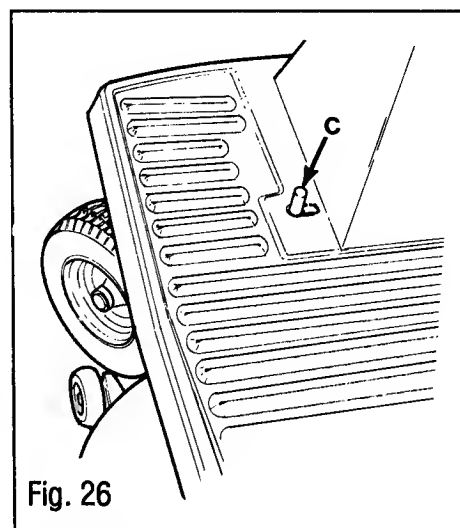

Fig. 26
C — PARKING BRAKE (BRAKE LOCK). Push the brake pedal (B) all the way down and push brake lock (C, Fig. 26) to the right to apply the parking brake. To disengage, push the brake pedal down and release.
2. Set parking brake (C, Fig. 26, page 17). The engine will not start unless the brake pedal is down.